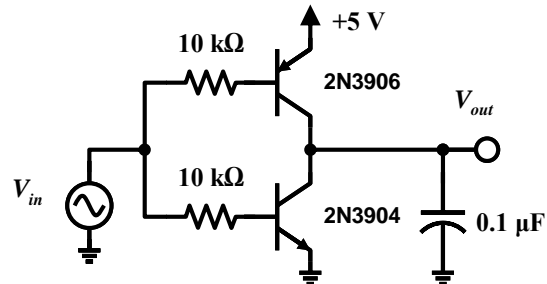

Figure 4-5 – Improved BJT inverter using complementary devices.
Ideally we would like to have a collector resistance that is small when the transistor is “off”, and large when the transistor is “on”. Figure 4-5 shows how we can do this: simply replace the collector resistor by a complementary transistor! Now when the input signal is low, the lower transistor (2N3904) turns off and the upper transistor (2N3906) turns on, so the capacitor is now charged through a low-resistance path. When the input signal is high, the upper transistor turns off, and the lower transistor turns on, discharging the capacitor through a low-resistance path.
- Build the circuit in Figure 4-5 and record the output waveforms for 1 kHz input signal. You should see a significant improvement in the rise and fall times.
The complementary BJT inverter shown in Figure 4-5 is obviously similar to the CMOS inverter you built in the previous lab using the CD4007 IC. How do the two compare in terms of switching speed?